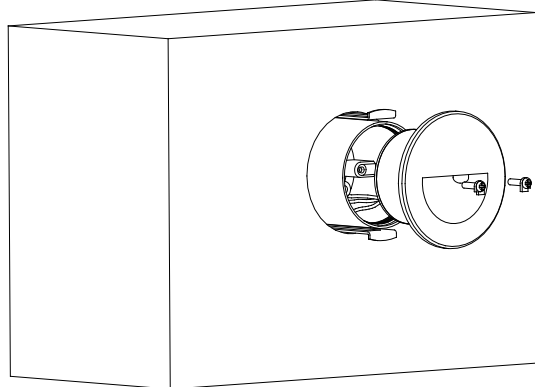

FIG. 8a
8. 对于安装到墙壁中的灯具, 接线盒被完全密封。灯具与接线盒装配好后, 边缘用灰泥填平 (图 8a、8b)。
8. For installation into masonry, it is important that the fixture be completely sealed. Attach metal conduit to the canopy, then use mortar to secure canopy in place.(Figs. 8a 8b)